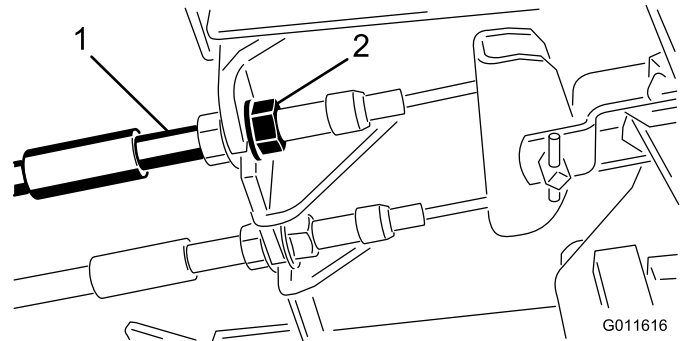

Figure 74
1. To reduce free travel of the brake pedals, tighten the brakes by loosening the front nut on the threaded end of the brake cable (Figure 74).